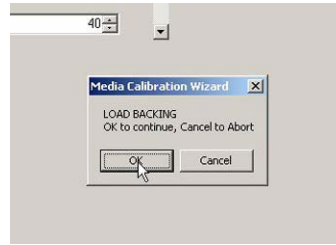

Figure 3-11: "Load Backing" Prompt
4. Query the printer by using the Query Printer toolbar button (top-left in Figure 3-11) or the large 'Query' button in the green box. This will connect to the printer and get the current printer settings.